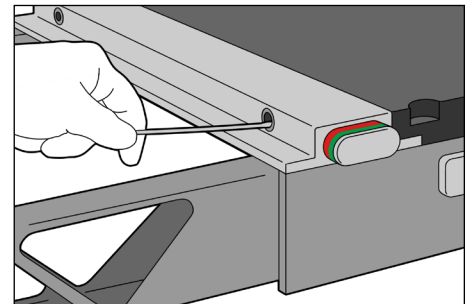

Fig. 3
3. Use dry cotton swab to clean out the inside of the receiving holes. (Fig. 3)
5. Use dry cotton swab to wipe out loose lint and debris. (Fig. 3)